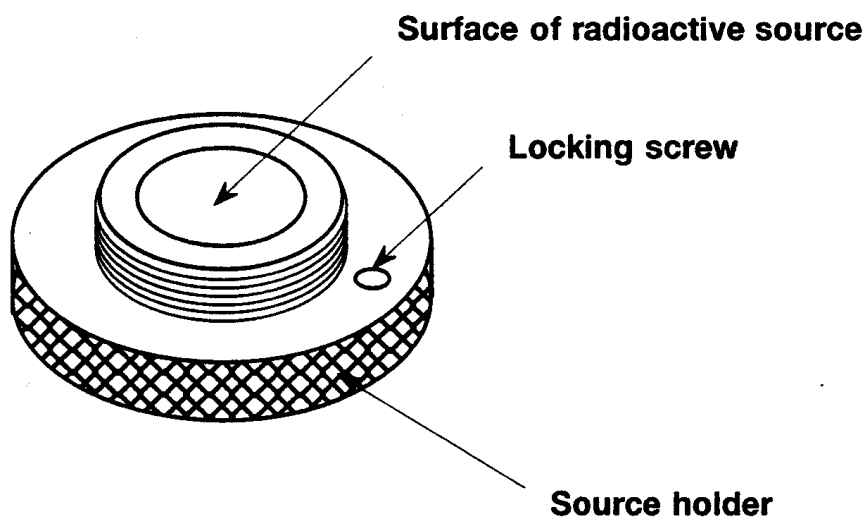

Fig. 5.1.1 Holder with radioactive source
- a) Never touch the surface of the radioactive source (see Fig. 5.1.1) with your fingers, use disposable gloves during the work.